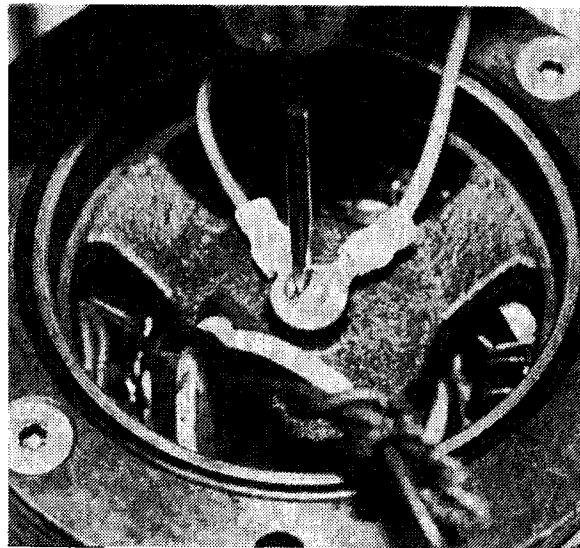

FIG. 33
3. Lift cap and remove lead from ground screw. See Figure 33.